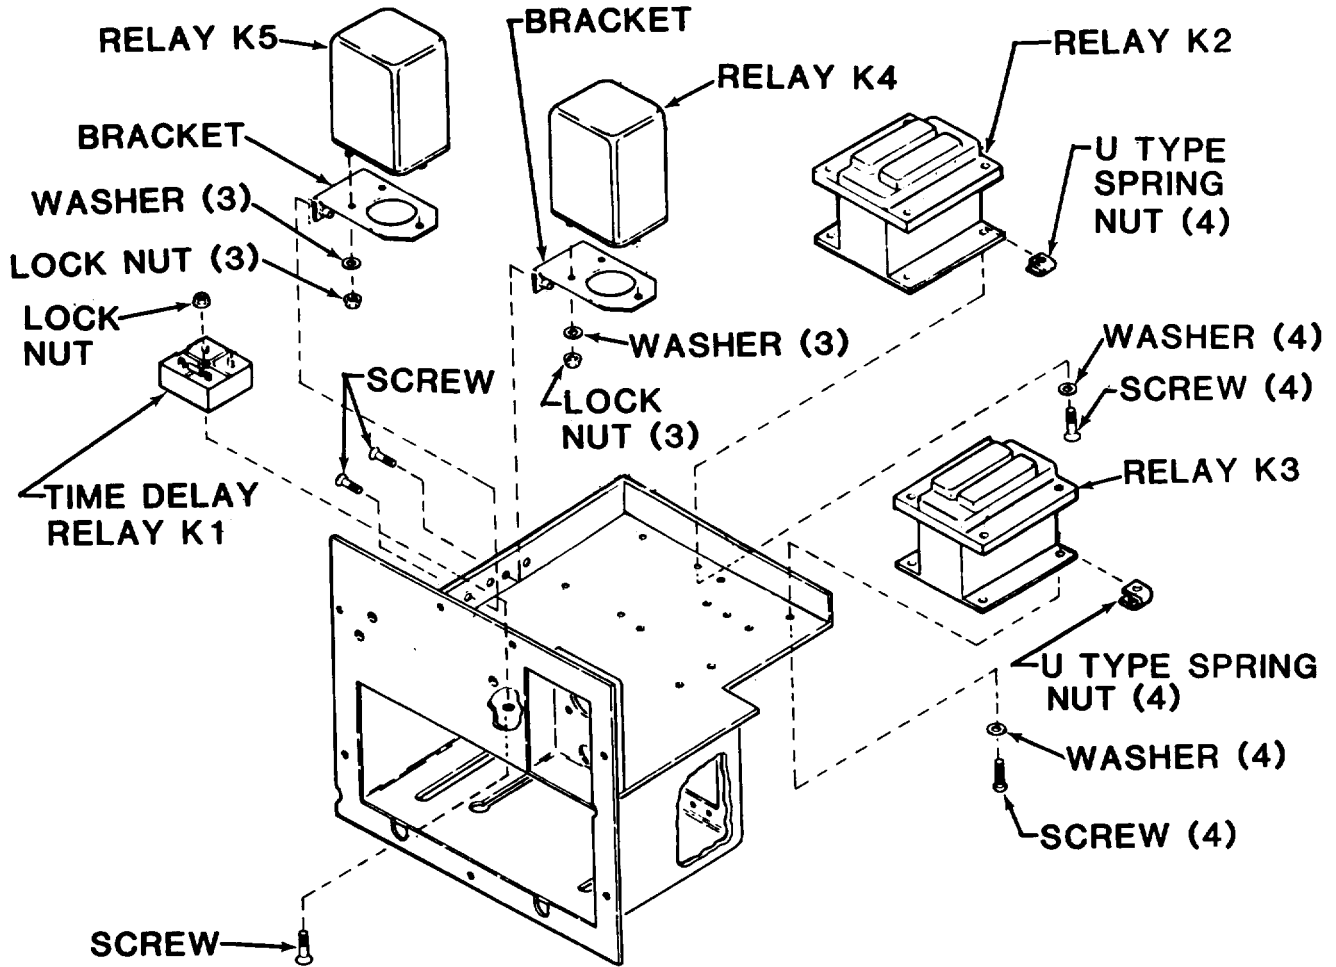

Figure 4-24. Relays
Relays K21 K3, K4 and K5 and time delay relay K1 are located in the junction box. (See fig. 4-24.)
(1) Tag and disconnect wires to relay.
(2) See figure 4-24 and remove attaching hardware.
(3) Pull relay from junction box.
(1) Mount relay using hardware indicated on figure 4-24.